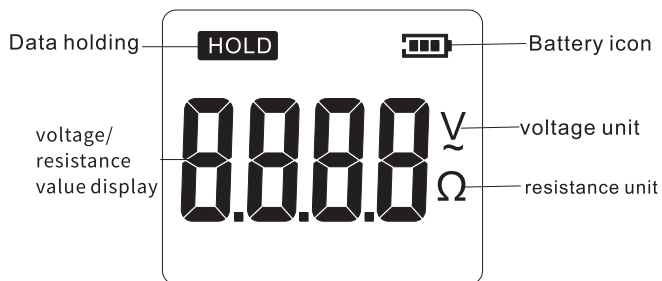

Figure2
LCD Displays(Figure2)
- a. pound P and C ground nails deeply into the ground, line them and equipment to be measured in a line (straight line) with distance 5 to 10 meters. The connection method is shown in Figure 2: